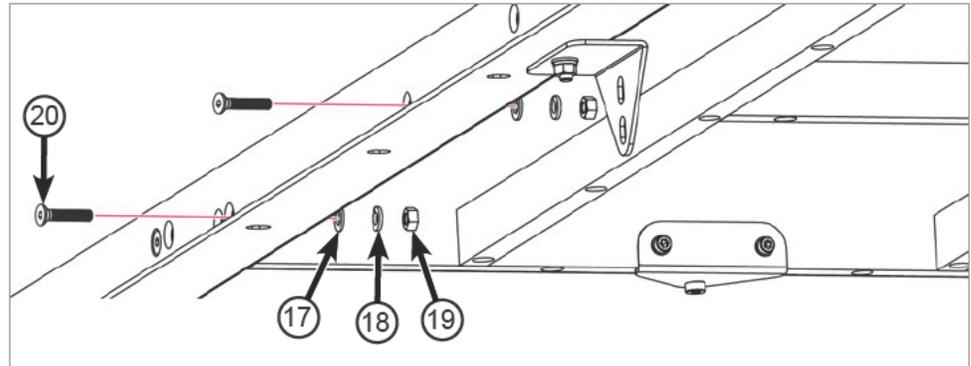

Fig. 20
- The extension table mounts to the rails with bolts that pass through holes in the rails and extension table (See Fig. 20). If you have an extension table for a 36" fence system, take two M8 x 35 countersunk socket head bolts and insert one through the hole in the front rail closest to the saw and the other through the hole in the rear rail closest to the saw. If you have an extension table for a 52" fence system, take four M8 x 35 countersunk socket head bolts and insert one bolt into each of the two holes in the front rail closest to the saw, and one bolt into each of the two holes in the rear rail closest to the saw.